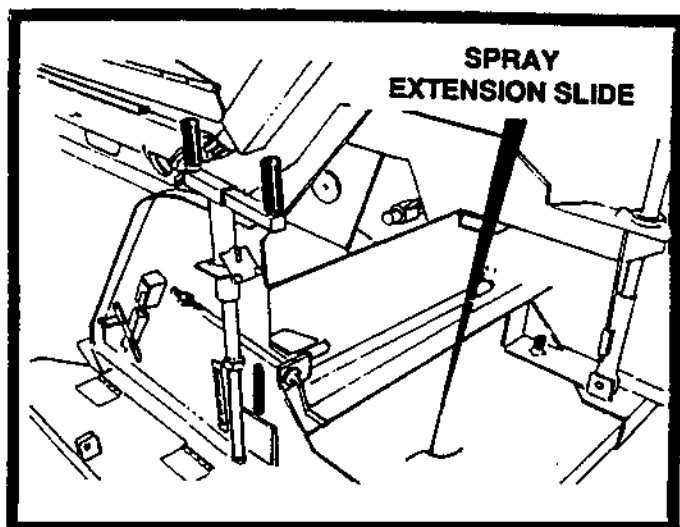

FIGURE 28
7. Grease extension slide with multi-purpose grease or spray with fuel oil at points shown in figure 28.